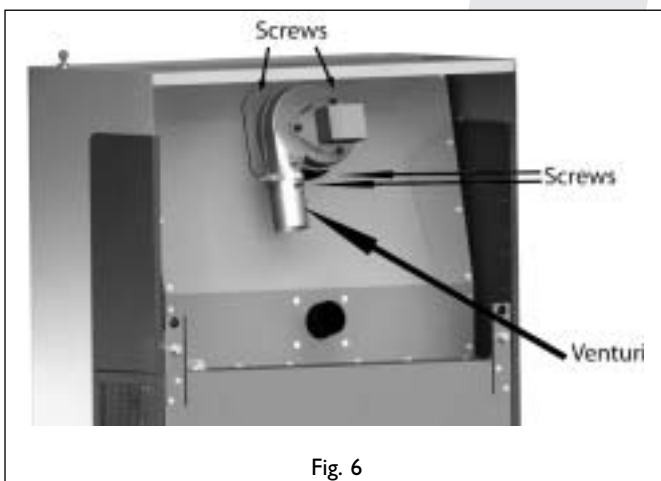

Fig. 6
- Slide the flexible discharge tube onto the venturi tube that is connected to the combustion fan (see fig. 6).